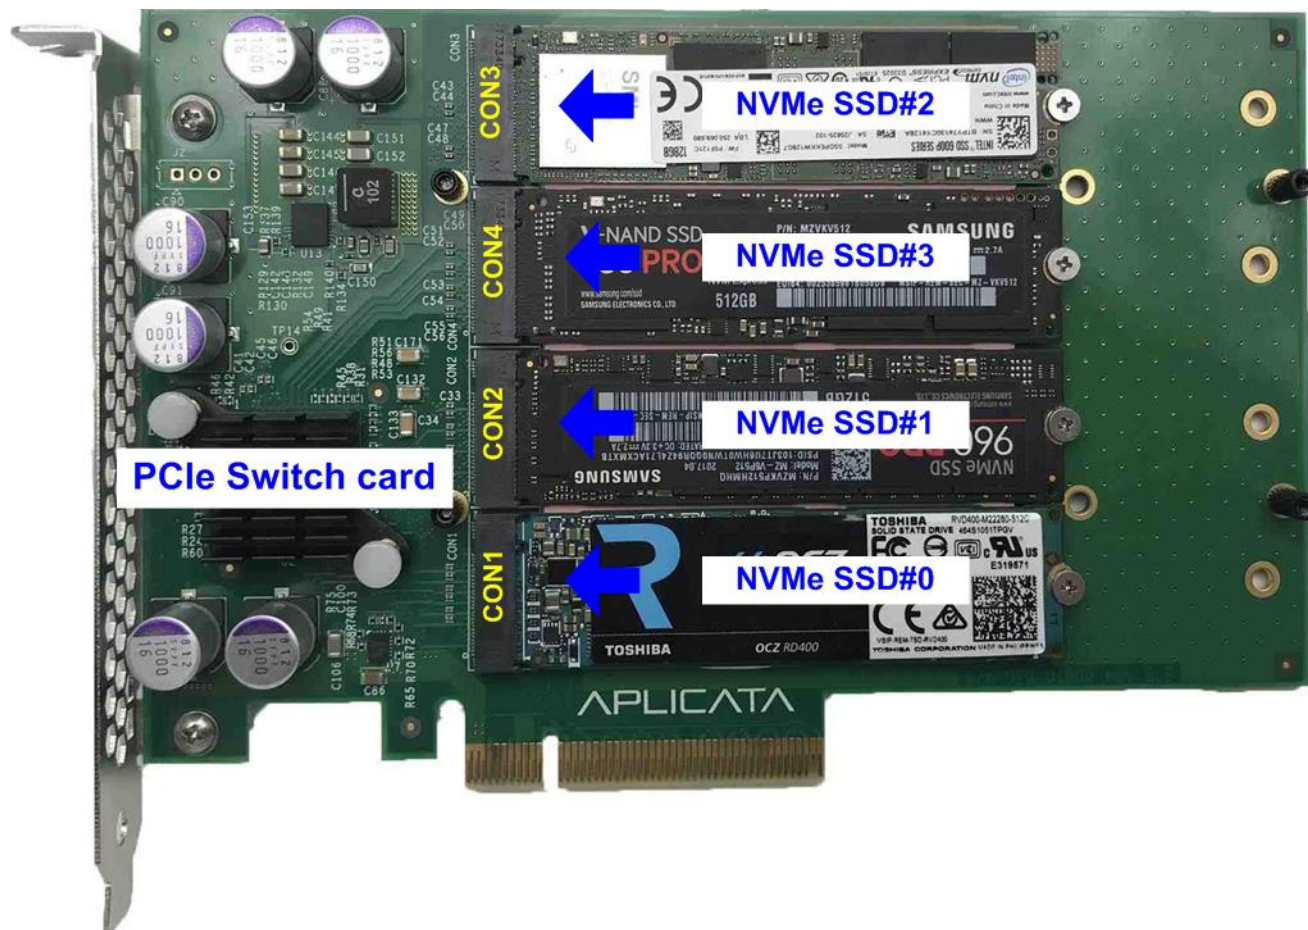
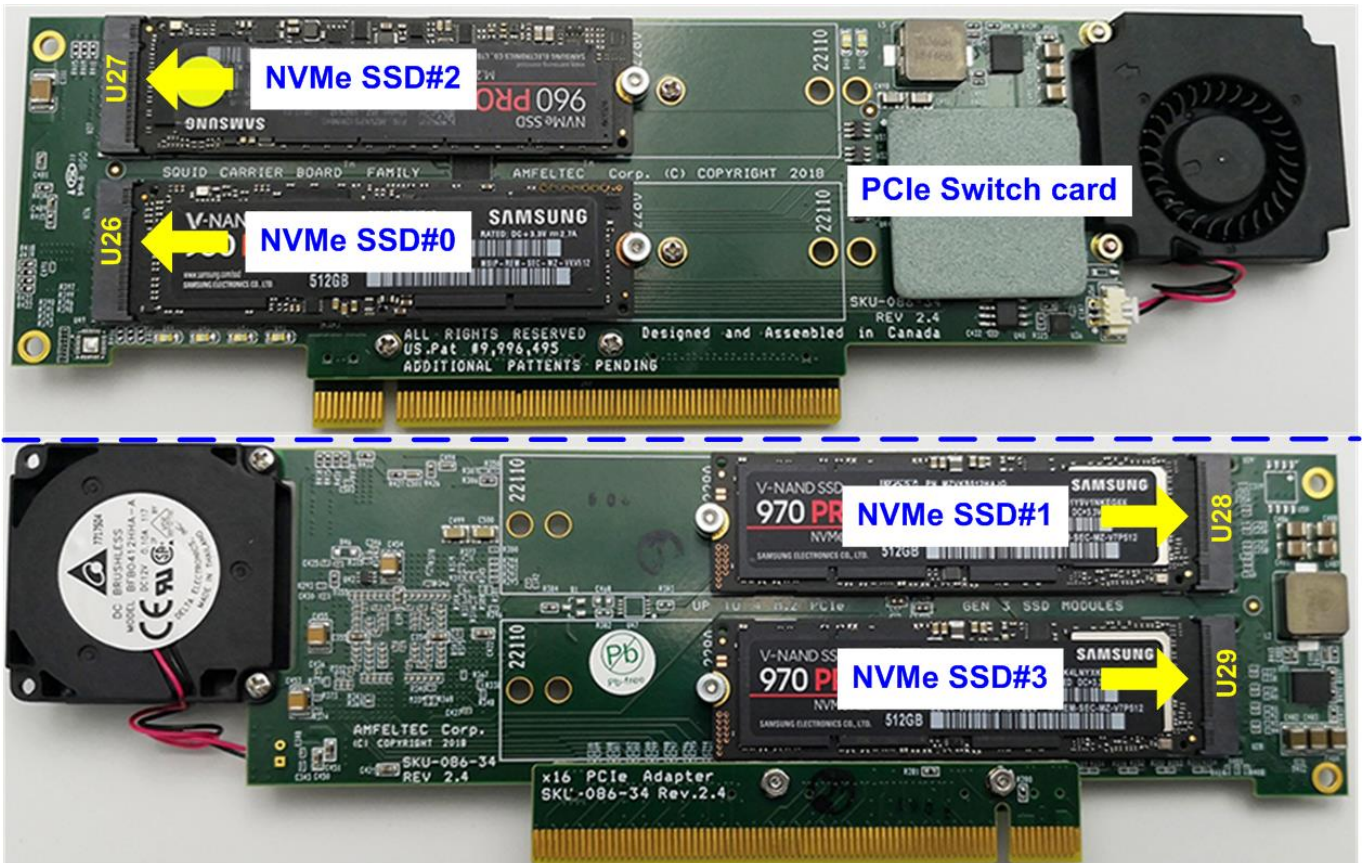

Figure 2-1 Connect NVMe SSD to PCIe Switch#1
Figure 2-2 Connect NVMe SSD to PCIe Switch#2
- 2) Connect 1-4 NVMe SSD(s) to PCIe switch card. Figure 2-1 and Figure 2-2 show the example to use four SSDs connected to PCIe switch card. The SSD channel number depends on the PCIe switch card characteristic.